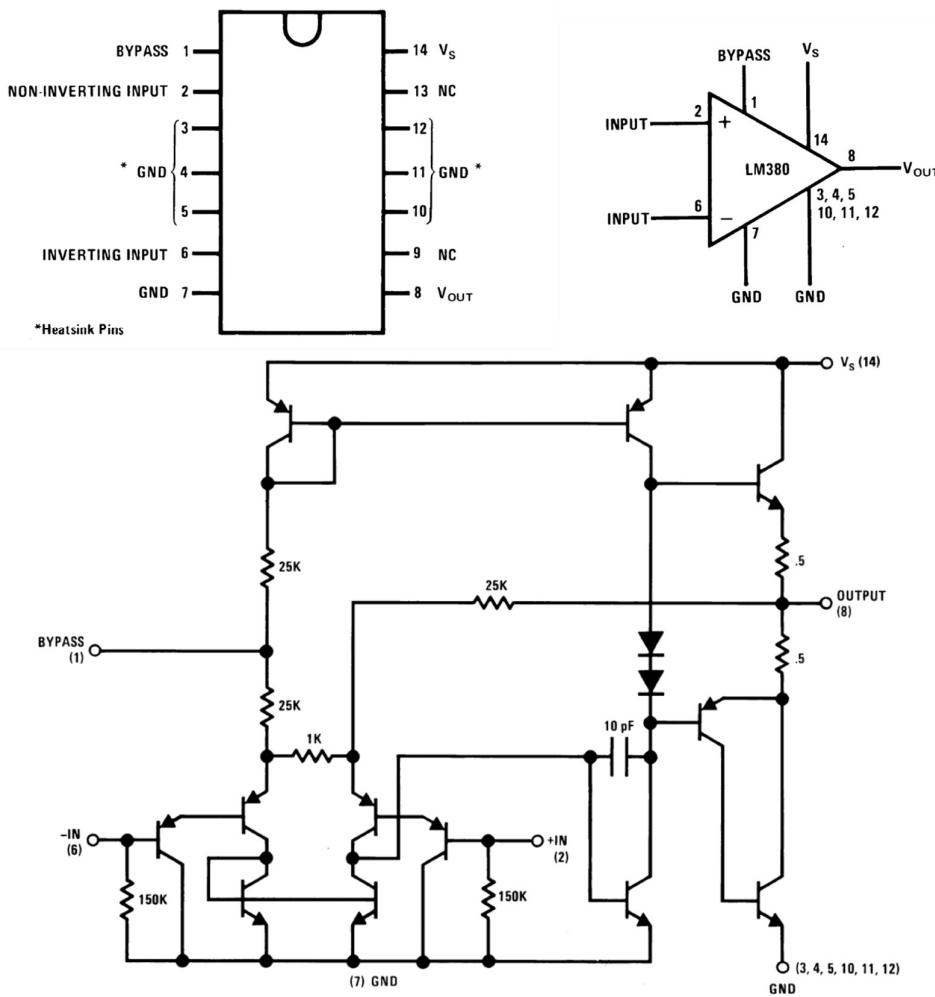

Fig. 6.1. LM380N power amplifier IC.
The PA is the central component responsible for delivering the necessary gain and power amplification to drive the load. A suitable integrated circuit (IC) for the PA subsystem is the LM380N whose equivalent circuit diagram and terminal configuration are shown in Fig. 6.1. The voltage gain of the PA is internally fixed at 34 dB.